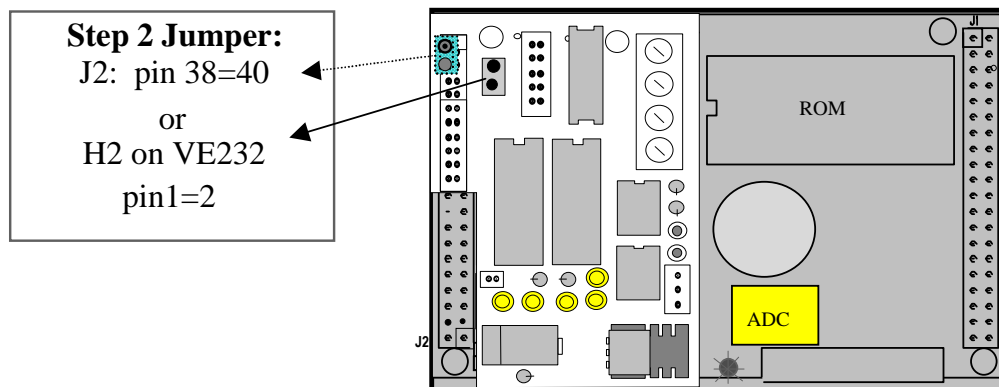

Figure 1.5 Locations for Step 2 jumpers
- Set the jumper on J2 pins 38-40 on the i386-Engine (Figure 1.5).